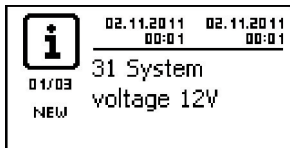
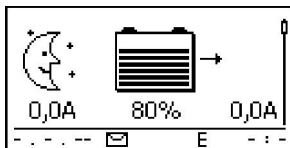

Fig. 11 Event message with the detected system voltage (in the example: 12 V)
Fig. 12 Basic setting of the status display
2.  Switch on the external battery fuse: Insert the fuse insert into the fuse holder (safety fuse) or switch on the DC line circuit breaker. The controller automatically starts operation and, after a few seconds, displays the detected system voltage (= battery voltage) in an event message (Fig. 11).
3.  Note the system voltage displayed in Fig. 11.
4.  Press 'ESC' to confirm the event message. The basic setting display appears (Fig. 12).
6.  If Fig. 11 and Fig. 12 are not displayed then check the installation and if necessary correct the error using section 15.